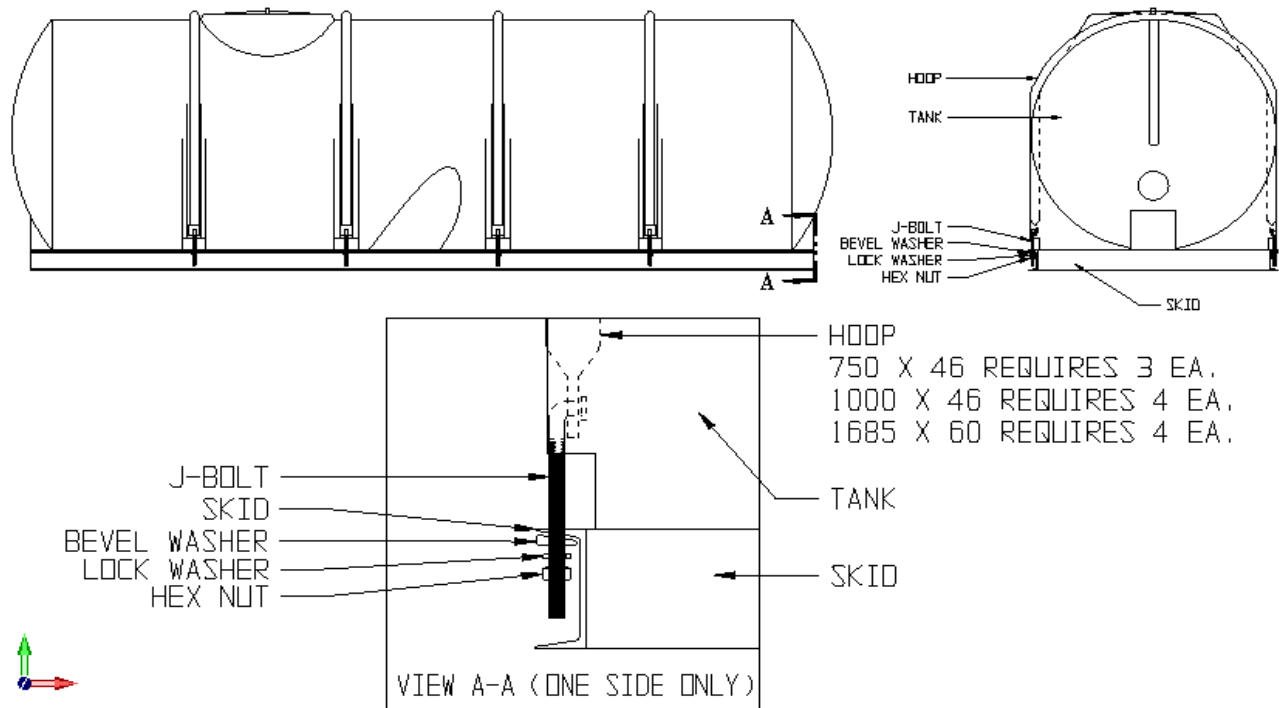

Figure 8.8
the tank was sitting on level ground) and a method to attach and tighten the hoop pipe restraint system. An example assembly drawing is shown in Figure 8.8.
8.8.3 With one person on each side of the tank, insert J-bolts into the hoop holes and lift the hoop into position directly above the tank legs. Spread the hoop slightly while sliding the hoop (centered in the pipe guide channel formed into the tank legs) onto the tank. Insert the J-bolts into the proper holes in the top of the skid. Install the bevel washer, lock washer, and hex nut on each of the J-bolts loosely. Do not tighten the hex nuts yet. See view A-A shown in Figure 8.8 for an illustration of the loosely assembled J-bolt/hoop assembly.